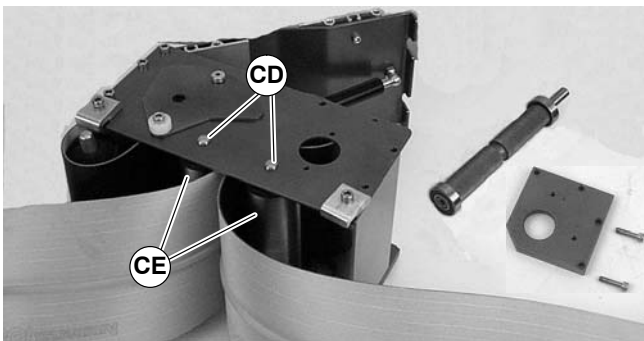

Figure 48
- For 5” (127 mm) or wider conveyor, depress both sides of each spring-loaded shaft (CD of Figure 48). Remove pulleys (CE).